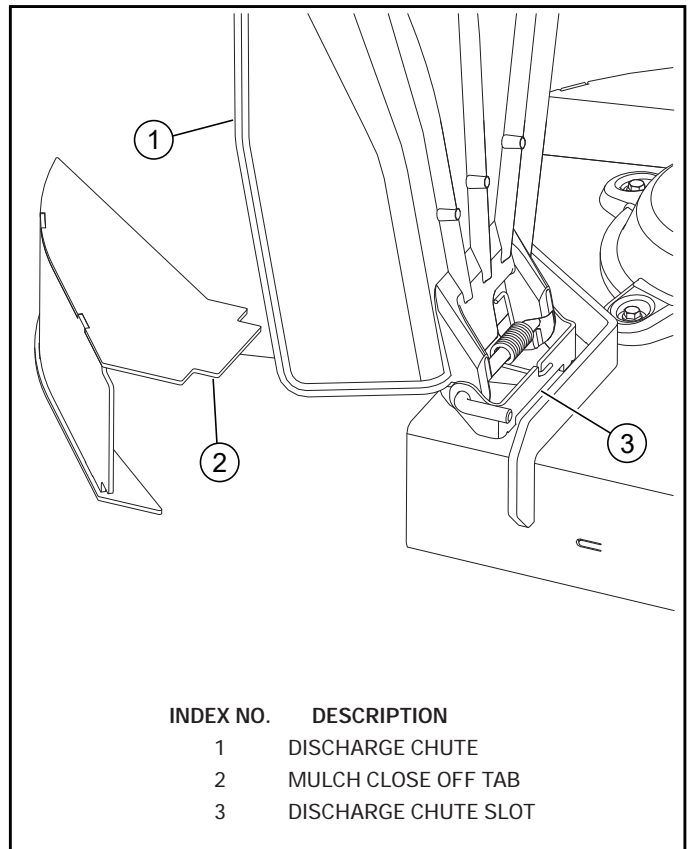
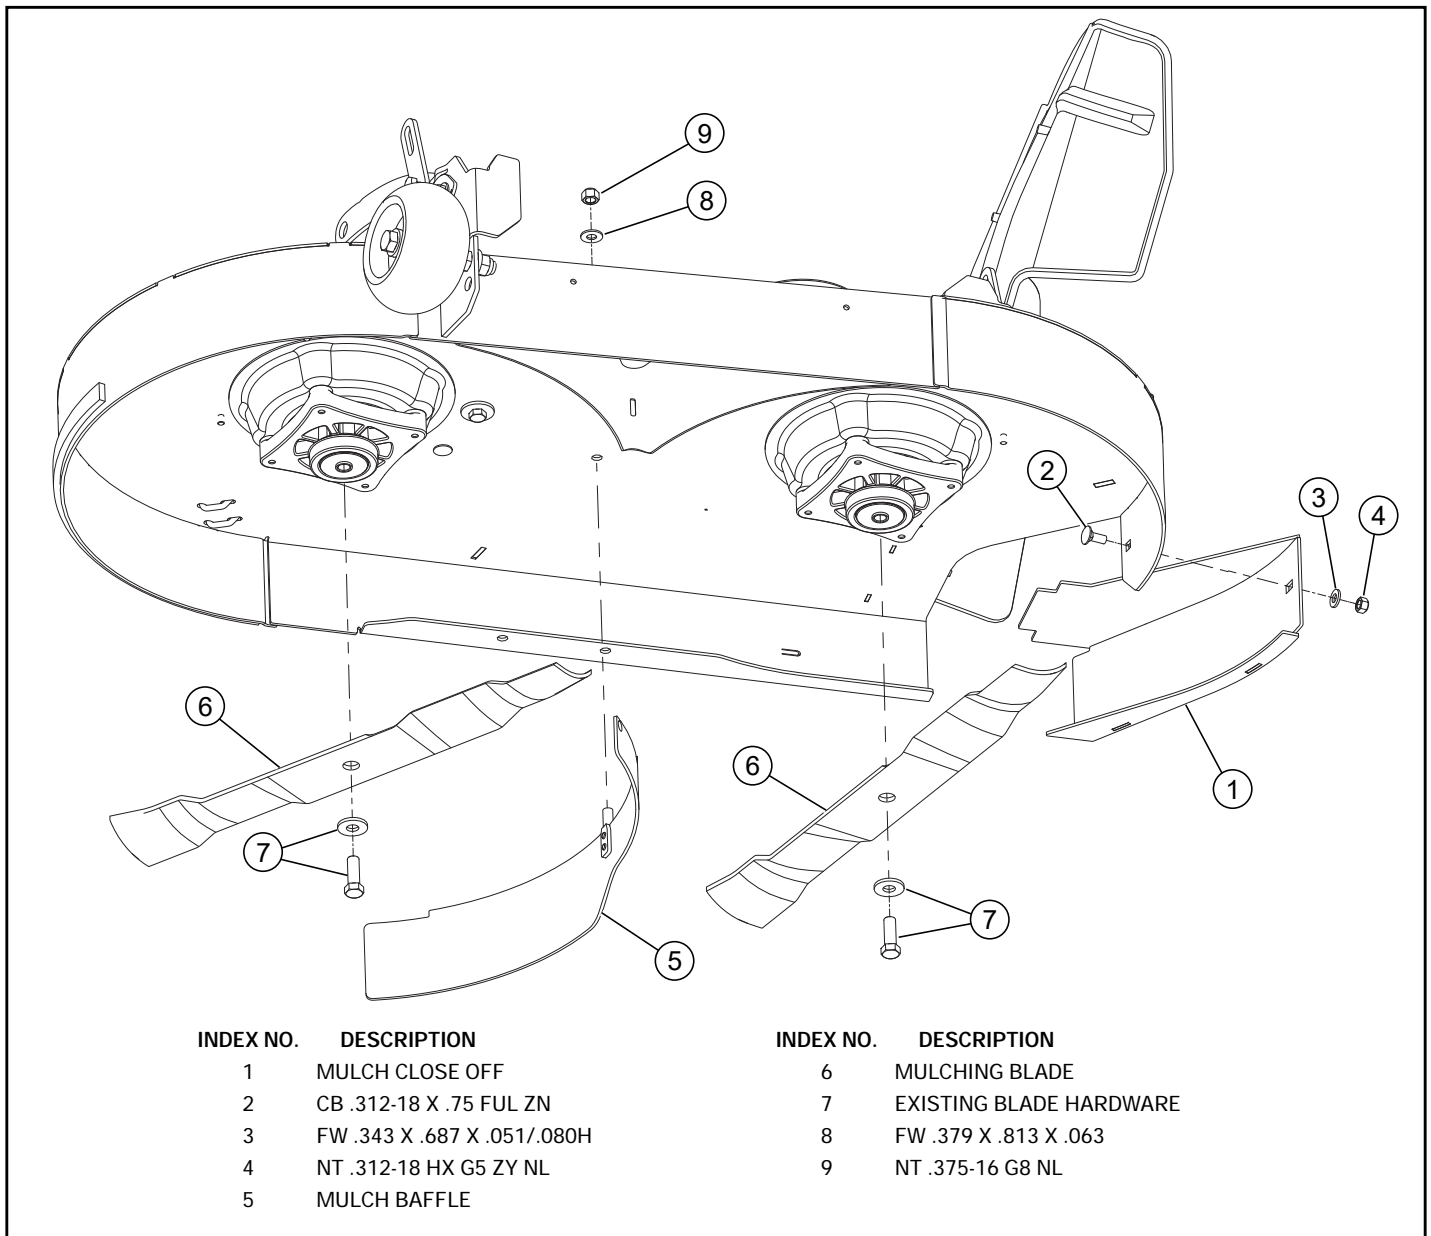

FIG. 2
FIG. 3
4. Install the mulch baffle as shown. Fig. 3
5. Raise the deck discharge chute up. Insert the tab of the mulch close off into the slot of the discharge chute bracket. Secure the mulch close off with the hardware provided. Fig. 2 & Fig. 3
6. Install the mulching blades on the spindles using the existing blade hardware. Torque bolts to 48 ft-lbs. (65 N•m) when installing blades. Fig. 3